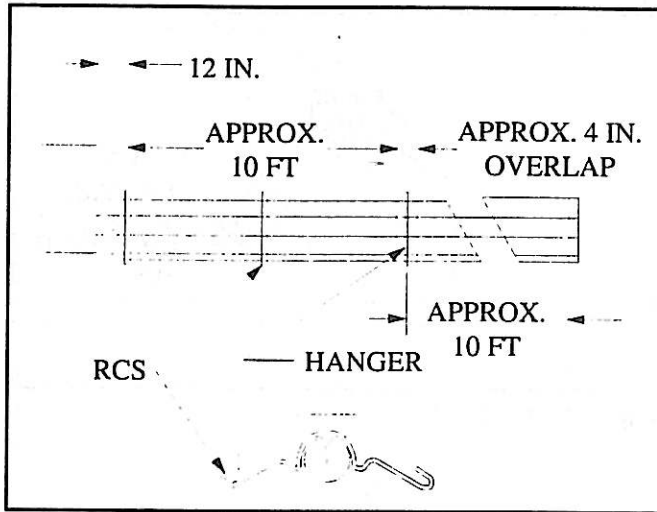

Figure 2-10
1. Install reflector center supports RCS as shown in Figure 2-10.
2. Slide reflector through wire hangers and adjust the reflector positioning spring in the V-groove on top of the reflector as shown in Figure 2-10. Overlap reflectors 4 in. for support (see Figure 2-10).